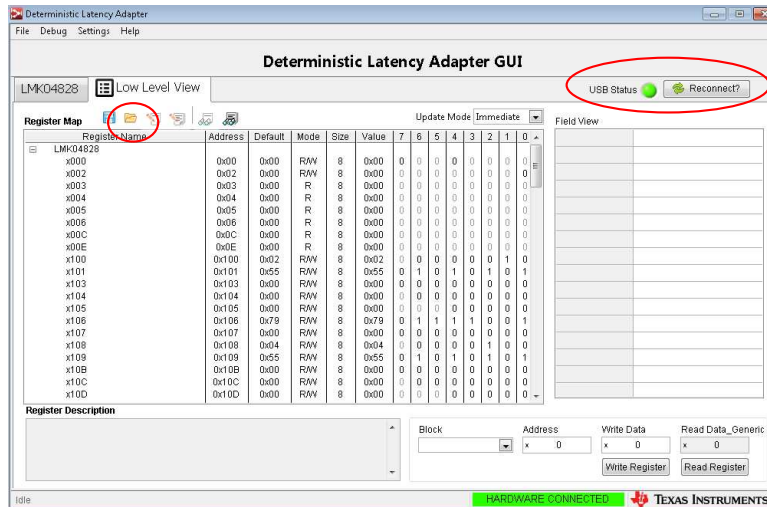

Figure 6. Deterministic Latency Adapter GUI
2. Ensure that the USB Status indicator is green (see Figure 6).
3. On “Low Level view” page, press the “Open Configuration” icon (see Figure 6)